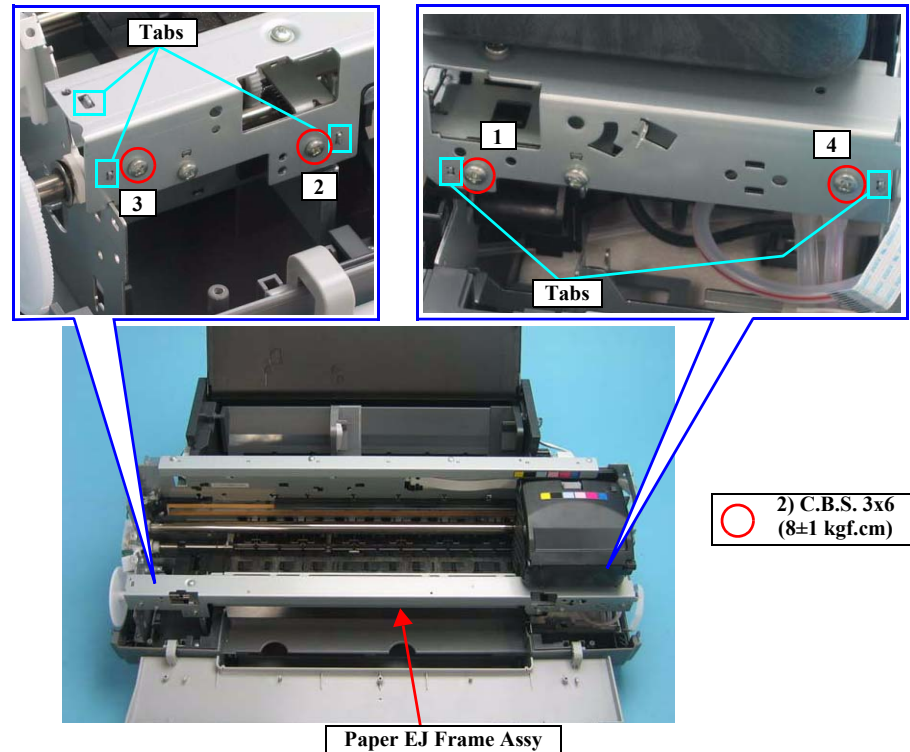

Figure 4-149. Screws that Secure the Paper EJ Frame Assy
See Figure 4-149.
- Tighten the screws in the order shown in Figure 4-149.